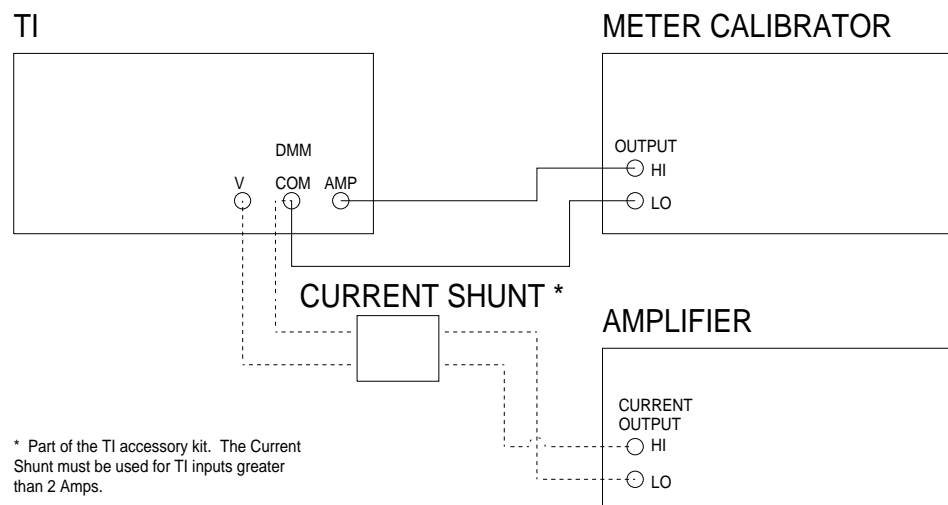

Figure 6.
4.11.2.1 Connect equipment as shown in Figure 6.
For TI inputs greater than 2 Amps, utilize the alternate connection as shown in Figure 6 and connect the Meter Calibrator OUTPUT to the Amplifier INPUT connectors, as required. Annotate on the Certification Label of the Current Shunt (P/O TI accessory kit) with the ID# and S/N of the TI which it was calibrated with.
* Move TI test leads from Meter Calibrator to Amplifier as shown in Figure 6. Set the Meter Calibrator, as required to produce 10.00 ADC at the Amplifier CURRENT OUTPUT.
4.11.2.10 Reconnect test equipment as originally shown in Figure 6.
* Move TI test leads from Meter Calibrator to Amplifier as shown in Figure 6. Set the Meter Calibrator, as required to produce 5.00 AAC at the Amplifier CURRENT OUTPUT.